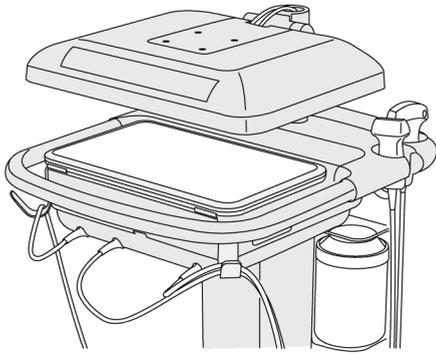

Figure 2-3 Clinical monitor collapsed for system transport
- 3 Fold the clinical monitor downward over the touch panel. Refer to **Figure 2-3** on page 2-17.